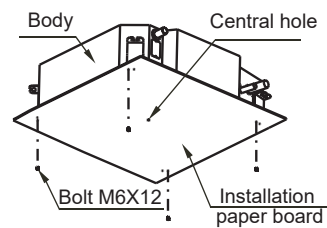

Fig.5-10
- 2 After installing the body, please fasten the installation paper board onto the air conditioner with bolts(M6X12) to determine in advance the sizes and positions of the hole opening on ceiling.(refer to fig.5-10)